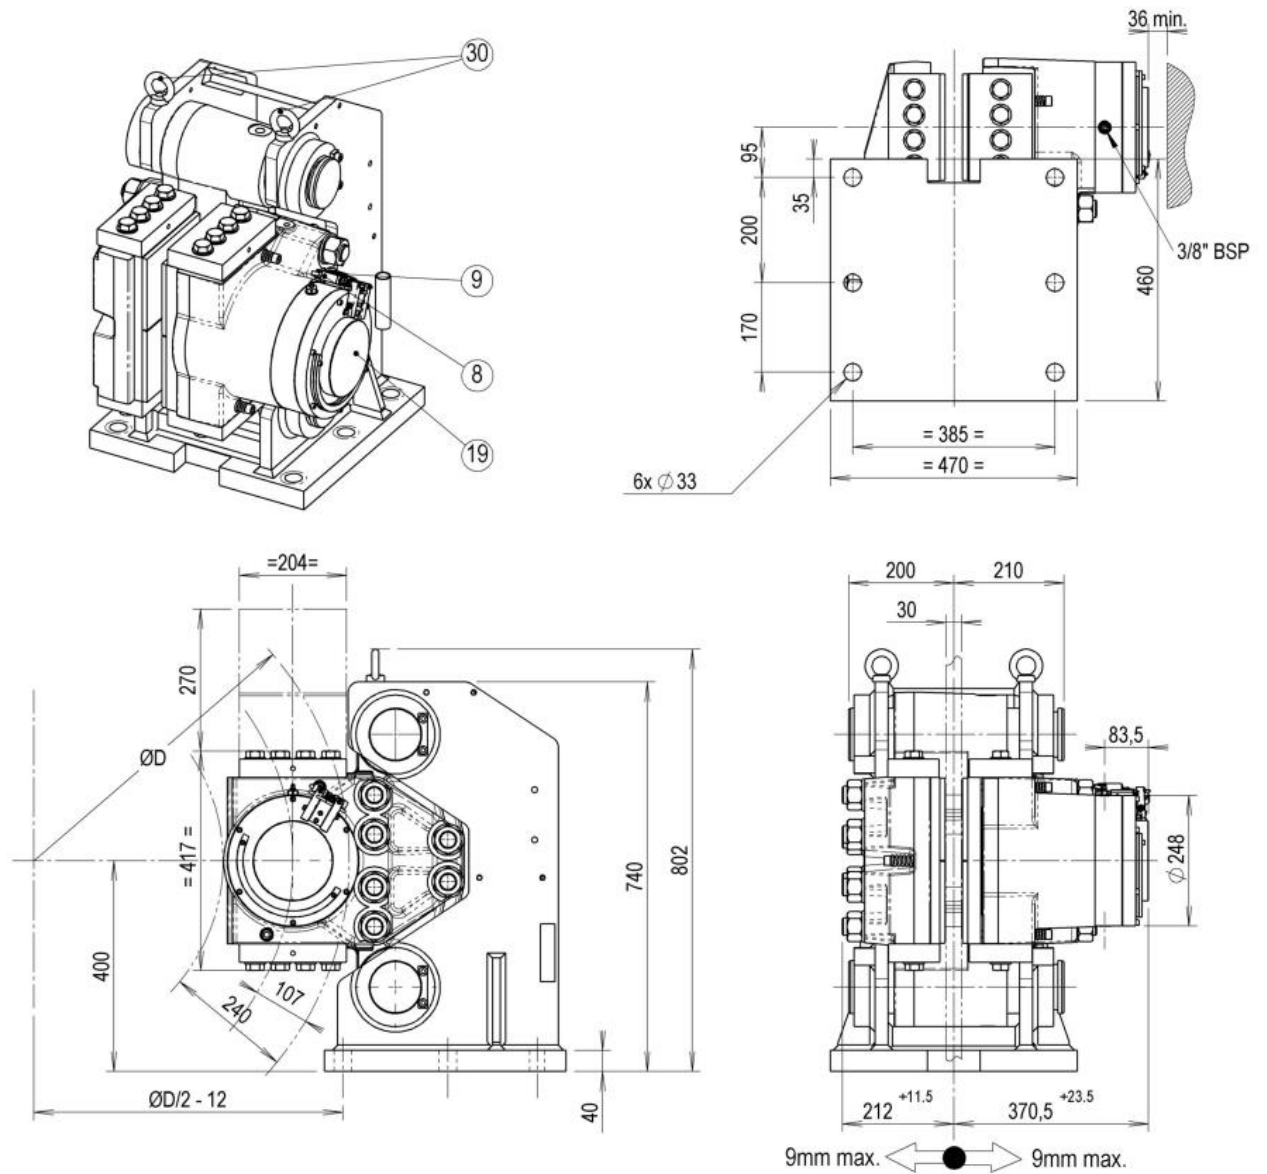
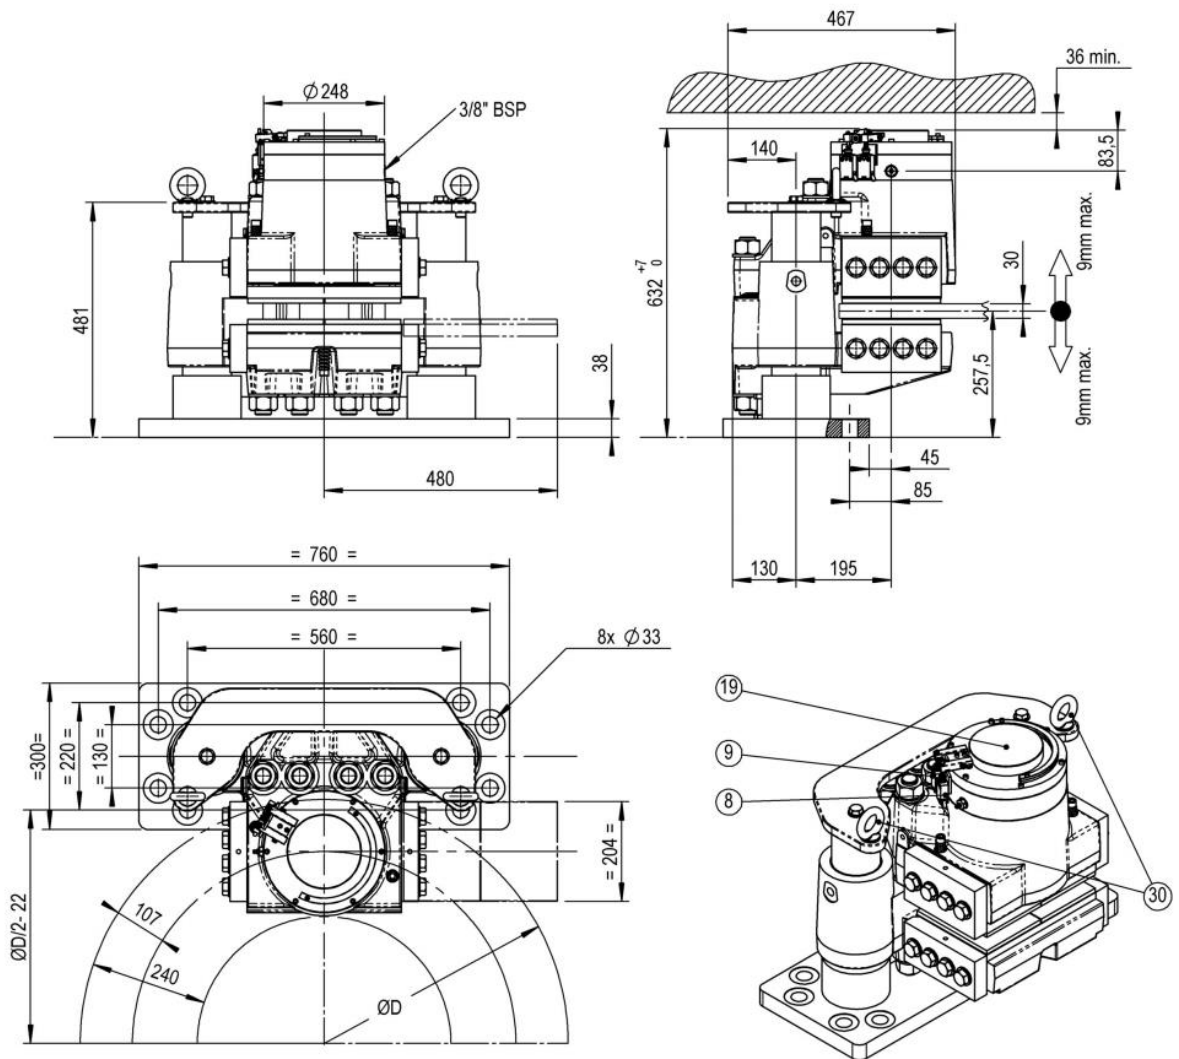

Fig. 2.1
Fig. 2.2
Put the assembly in position on the disc, raising it with lifting eyes Fig. 2.1 and Fig. 2.2.
1. Brake HS 165 FHM-420 R-V Check the disc position 257,5 +/-9 mm Fig. 2.2 use the balancing screw (16mm on flats) and that the disc is parallel // 0,3 to the brake pad. Check that the support balance in relation to the disc is less than 0,2mm. Check that the disc is fully between the pads.